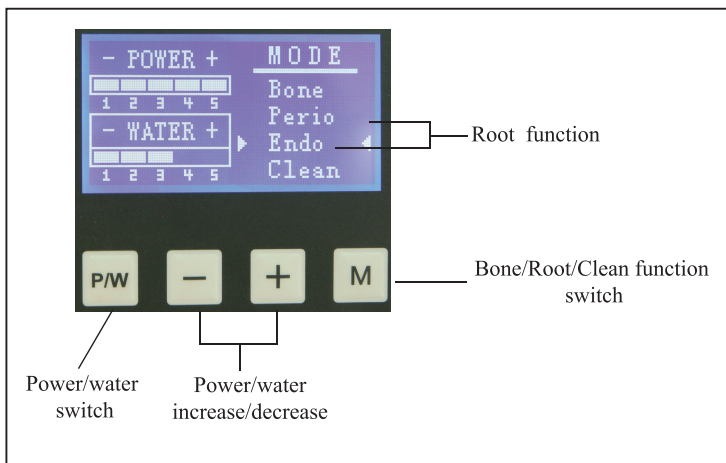

Fig.10
7.2.2 Root function (Fig.10)
power required differs from the level that has been set, use the key “+”/“-”(Fig.10) for selecting, depending on the type of function that has been set;